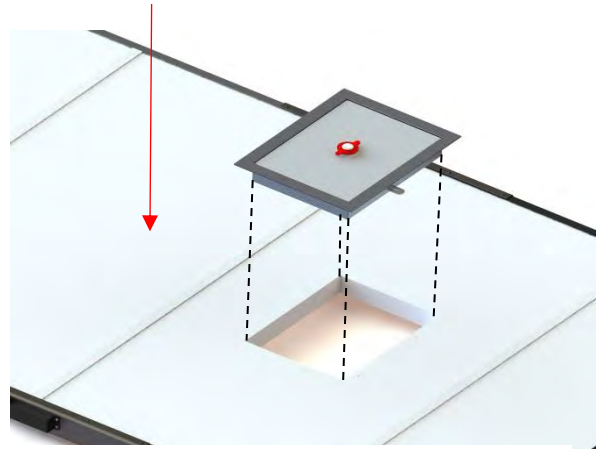

Figure 82
42) Turn the escape hatch handle to retract the arms and install it into the escape hatch opening of the center panel (Figure 82)